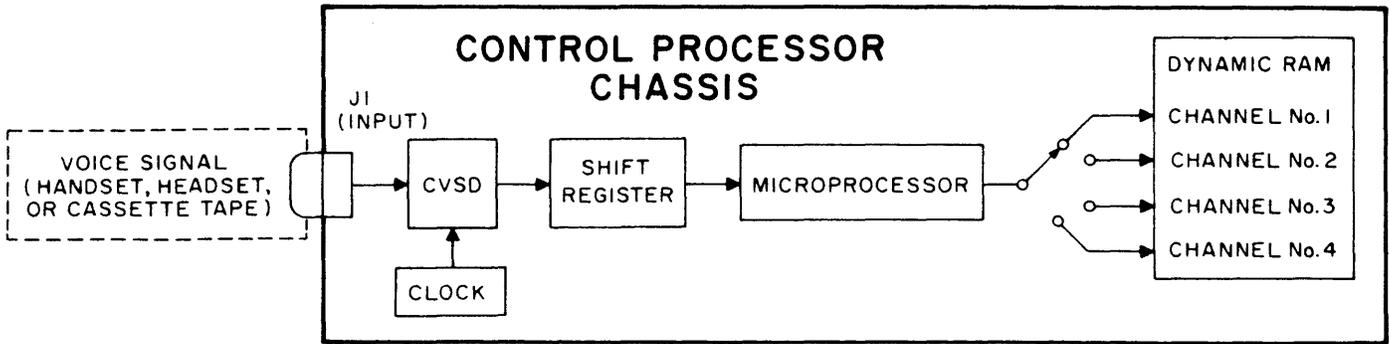

Fig. 2 - RECORD Mode Block Diagram
4.12 A simplified block diagram of the multi-channel digital announcer operation in RECORD mode is shown in figure 2, and explained